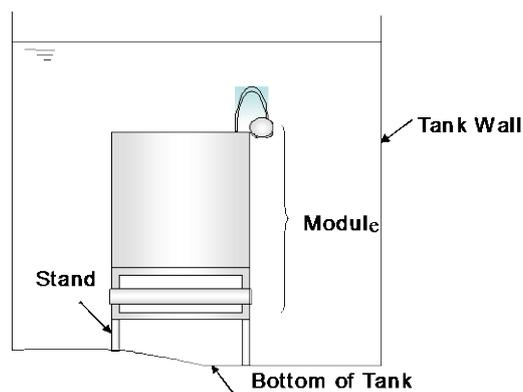

Fig.IV-6 Installation with Stands (side view)
* Please contact us in the case of facing difficulties with a layout design, including installation of the membrane modules in the existing aeration tank. It is recommended to install the modules with adjustable stands as shown in Fig.IV-6 so as to set modules horizontally when installing on an unlevel tank floor.